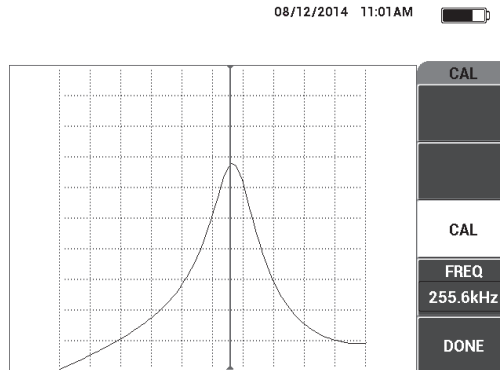

Figure 6-39 The CAL screen
6. Press **DONE** (E key) [see Figure 6-39 on page 157].